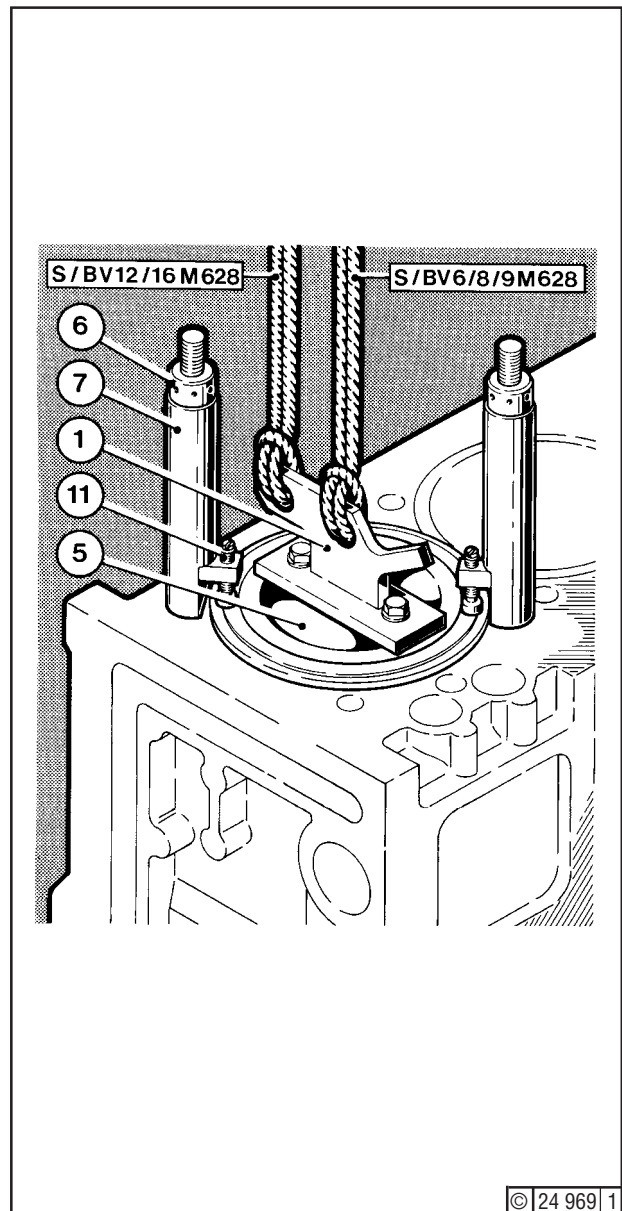

Fig. 1
Remove cylinder head (job 01.04.01) and big-end bearing cap (Job Card 02.05.01). Place both liner retainers (7) - Fig. 1 - on two opposite studs and tighten annular nut (6) moderately. Firmly screw thrust pad (11) on liner. Turn up piston (5) until bright liner running surface is just blanked off by piston top edge. Close gap between piston top and liner by grease and then scrape off carbon from liner top section **without** using a grinder.